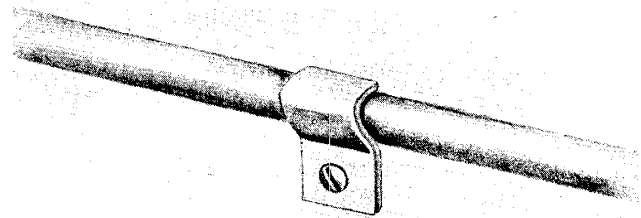

Fig. 4—Cable or Inside Wiring Clamp
**CABLE CLAMPS AND CABLE CLASPS (Fig. 4 and 5)**